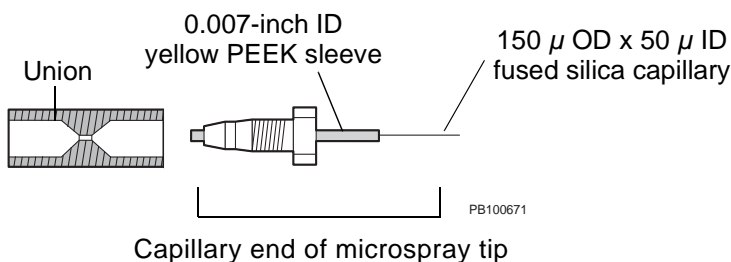

Figure 6-5 *Installing Fused Silica Capillary in the Microspray/Low-Flow Electrospray Spray Tip*
1. Place a Valco ferrule (see Figure 5-3 on page 57) and nut on the square-cut end of the 3/4-inch length of yellow PEEK sleeve (Figure 6-5).